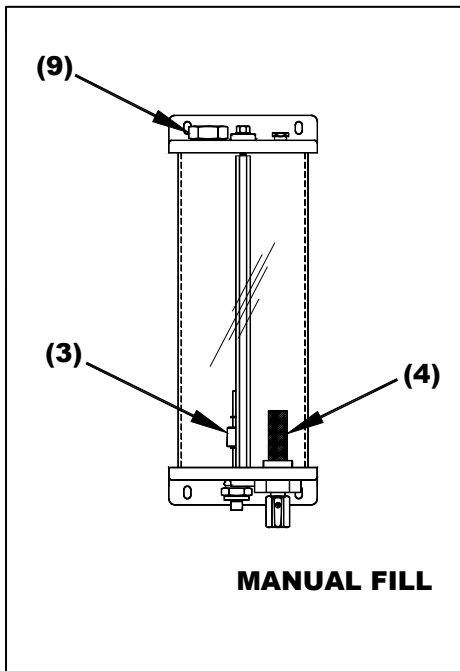
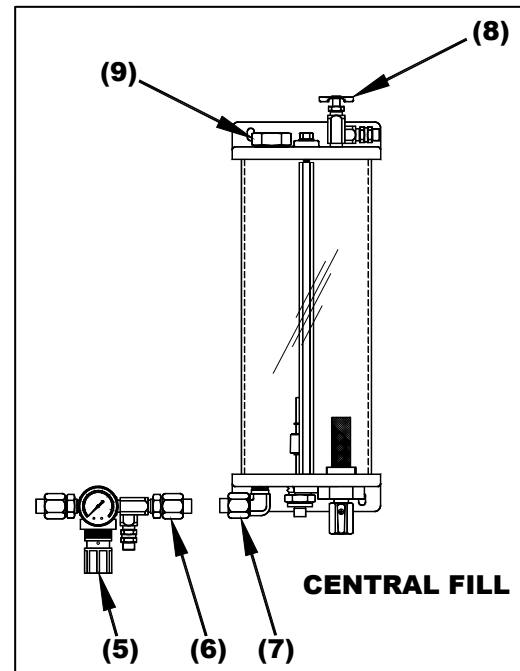

Fig. 3: Reservoir – Manual Fill
Fig. 4: Reservoir – Pressurized Central Fill
2. Reservoir assembly: There are two reservoir assemblies available for the system. All reservoirs have a low level switch (3) and 100-mesh strainer (4) as standard.
- a. **Manual fill** (Ref. Fig. 3):
- Remove fill plug (9) from reservoir top plate.
- b. **Central fill** (Ref. Fig. 4): for remote filling of reservoir from a centralized tank.
- Adjust regulator on pressurized central fill assembly (Ref. Fig. 4), to the closed position. Pull down on adjustment handle (5), to unlock, rotate handle counter-clockwise until closed.
- Connect 1/2" steel tubing from outlet side (6), of pressurized central fill assembly to the 1/2" steel tube fitting (7) supplied on the bottom plate of reservoir.
- Open drain cock (8) on reservoir top plate for initial filling.
2. Manual fill (Ref. Fig. 4)
- Open drain cock (8) and adjust regulator to 0 PSIG.